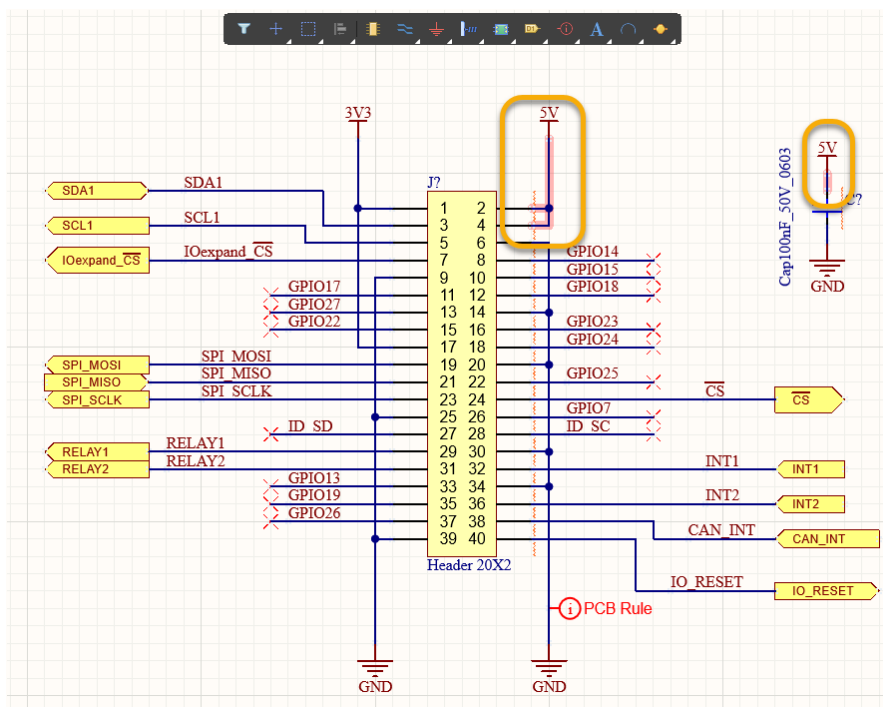

Figure 3. `Processor_Interface.SchDoc` with 5V net highlighted in red
14. Click on a wire connected to a 5V Power Port to highlight the entire net in red, as shown in Figure 3.